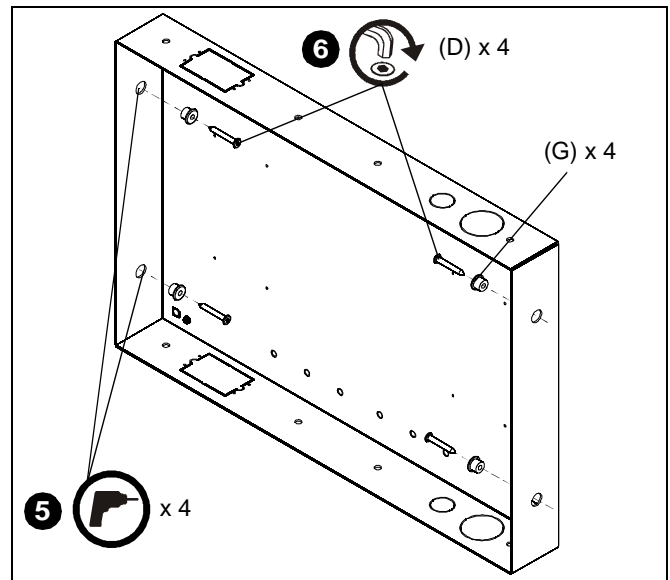

Figure 5
5. Drill four 3/16" diameter pilot holes in studs at side mounting holes. (See Figure 5)
6. Attach the PAC-501 to side studs using four M7 x 50mm Allen head connector screws (D) and mounting spacers (G) using an M4 Allen head drill bit (E). (See Figure 5)